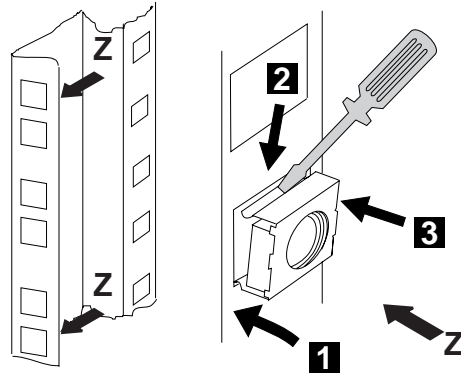

Figure 1-9. Installing the Captive Nuts for the 7585
12. ____ Refer to Figure 1-9, install four captive nuts (PN 58G5766) on the left and right side of the controller expansion.